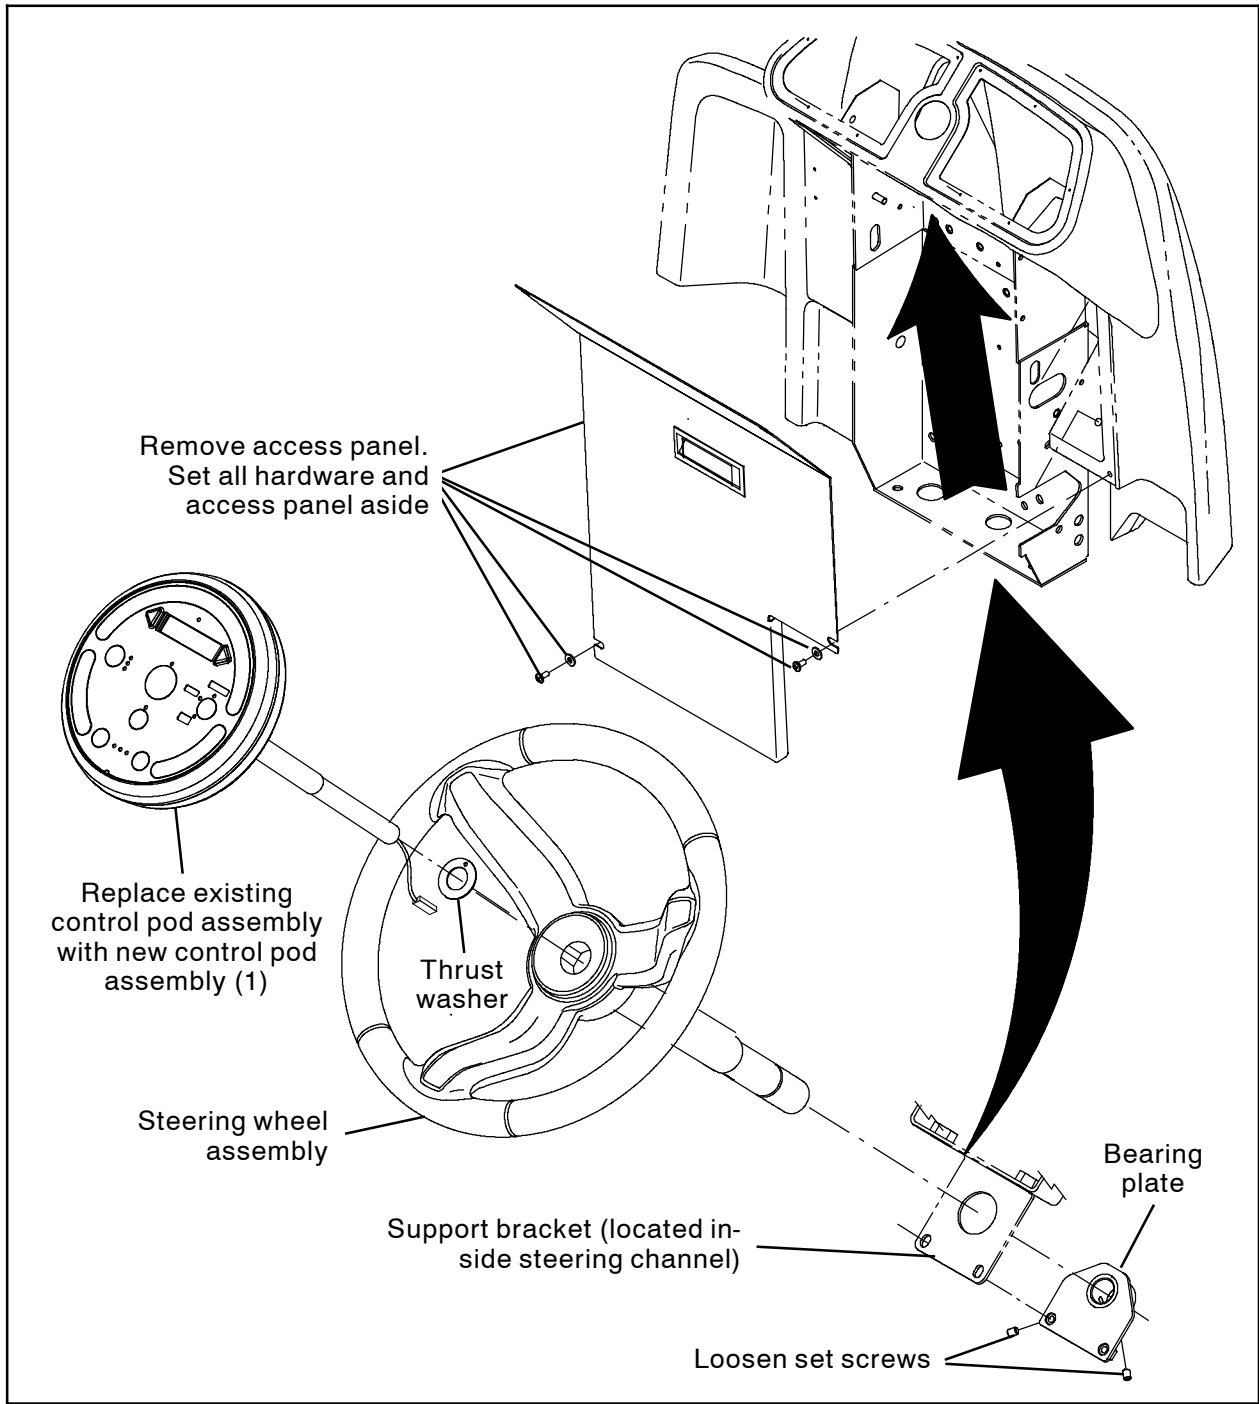

FIG. 1
2. Remove the access panel from the machine. Set the access panel and all hardware aside. (Fig. 1)
1. Loosen both set screws securing the control pod assembly shaft inside the bearing plate. (Fig. 1)
2. Disconnect the main wire harness from the control pod assembly. (Fig. 1)
3. Pull the control pod assembly from the steering wheel assembly. (Fig. 1)
4. Remove the thrust washer from the control pod assembly shaft and slide the thrust washer onto the new control pod assembly (1) shaft. (Fig. 1)
5. Install the control pod assembly (1) into the steering wheel assembly. (Fig. 1)
6. Connect the main wire harness to the control pod assembly (1). (Fig. 1)
7. Orient the control pod assembly (1) so it is correctly positioned on the machine.
8. Tighten the set screws to secure the control pod assembly (1) in the steering wheel assembly. (Fig. 1)